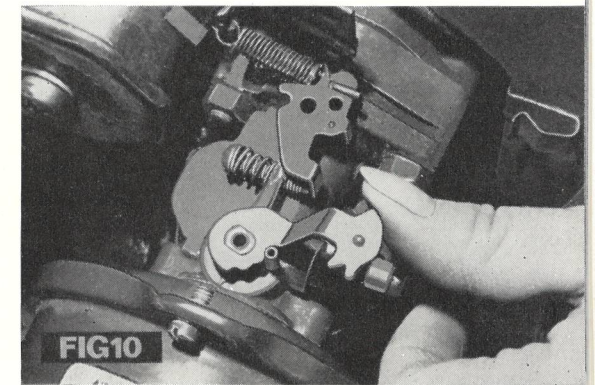

FIG10
7. Open the choke slightly by moving the choke lever in the reverse direction whilst the engine is warming up (fig. 10). When the engine has run for a moment or two, open the choke fully.